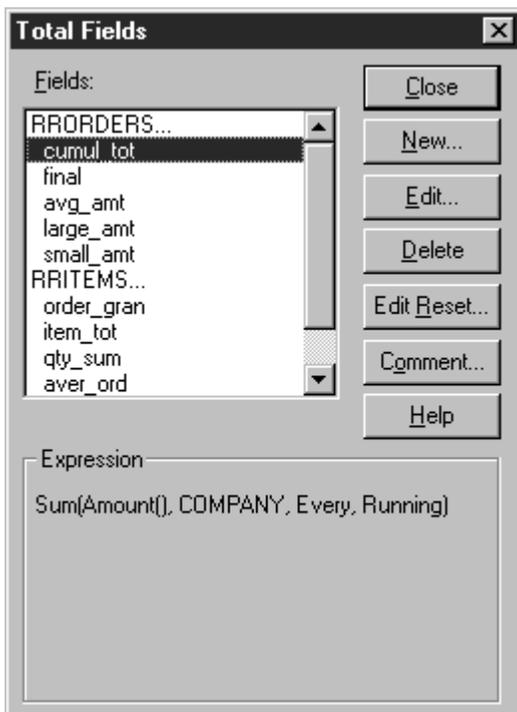

Figure 8.5 Total Fields Dialog Box
To edit a total field that is not on the layout, first select Calculations ⇒ Total Field or the Totals button on the Standard Toolbar. On the Total Fields dialog (see Figure 8.5), double-click the name of the field to be edited to display the Edit Total dialog.
Note that you can select the Edit Reset button on the Total Fields dialog (Figure 8.5) to change the reset level of all fields that reset at a particular level. For example, if you select “Page total” in the Change From box and “DESCRIPTN” in the Change To box on
1. Select Calculations ⇒ Total Field to display the Total Fields dialog (Figure 8.5).